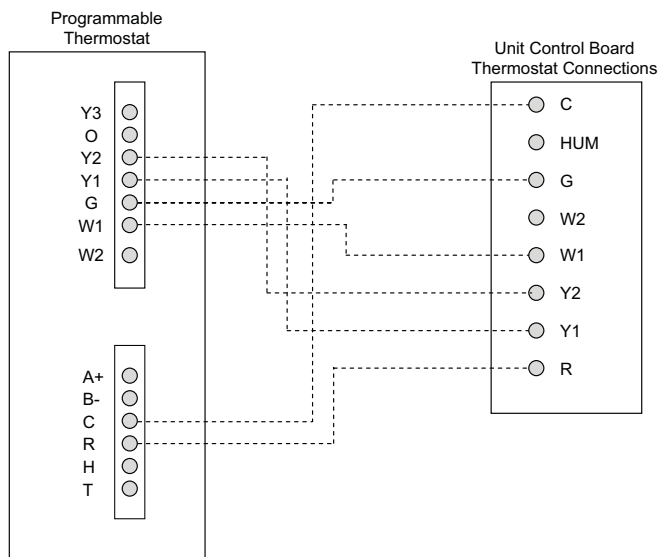
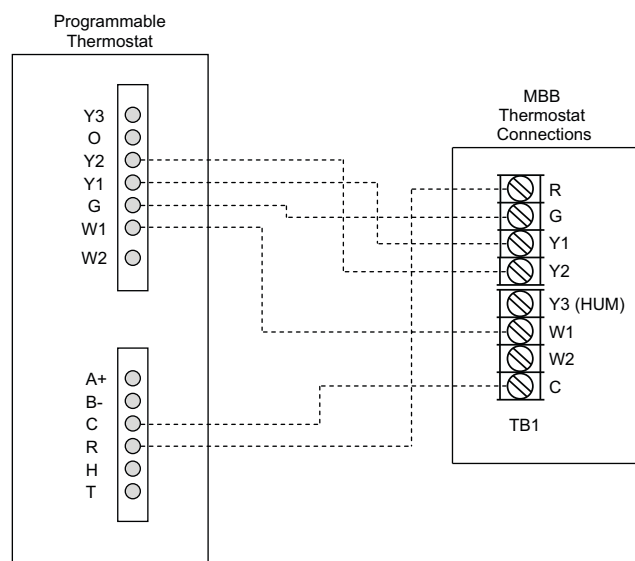

Fig. 57 — Typical Thermostat Connections – Electromechanical Controller UCB
Fig. 58 — Typical Thermostat Connections – SystemVu Controller MBB
4. For electromechanical controller units see Fig. 57 for typical thermostat connections. For SystemVu controller units see Fig. 58. Refer to the installation instructions included with the Carrier Connect Plus thermostat for more information.